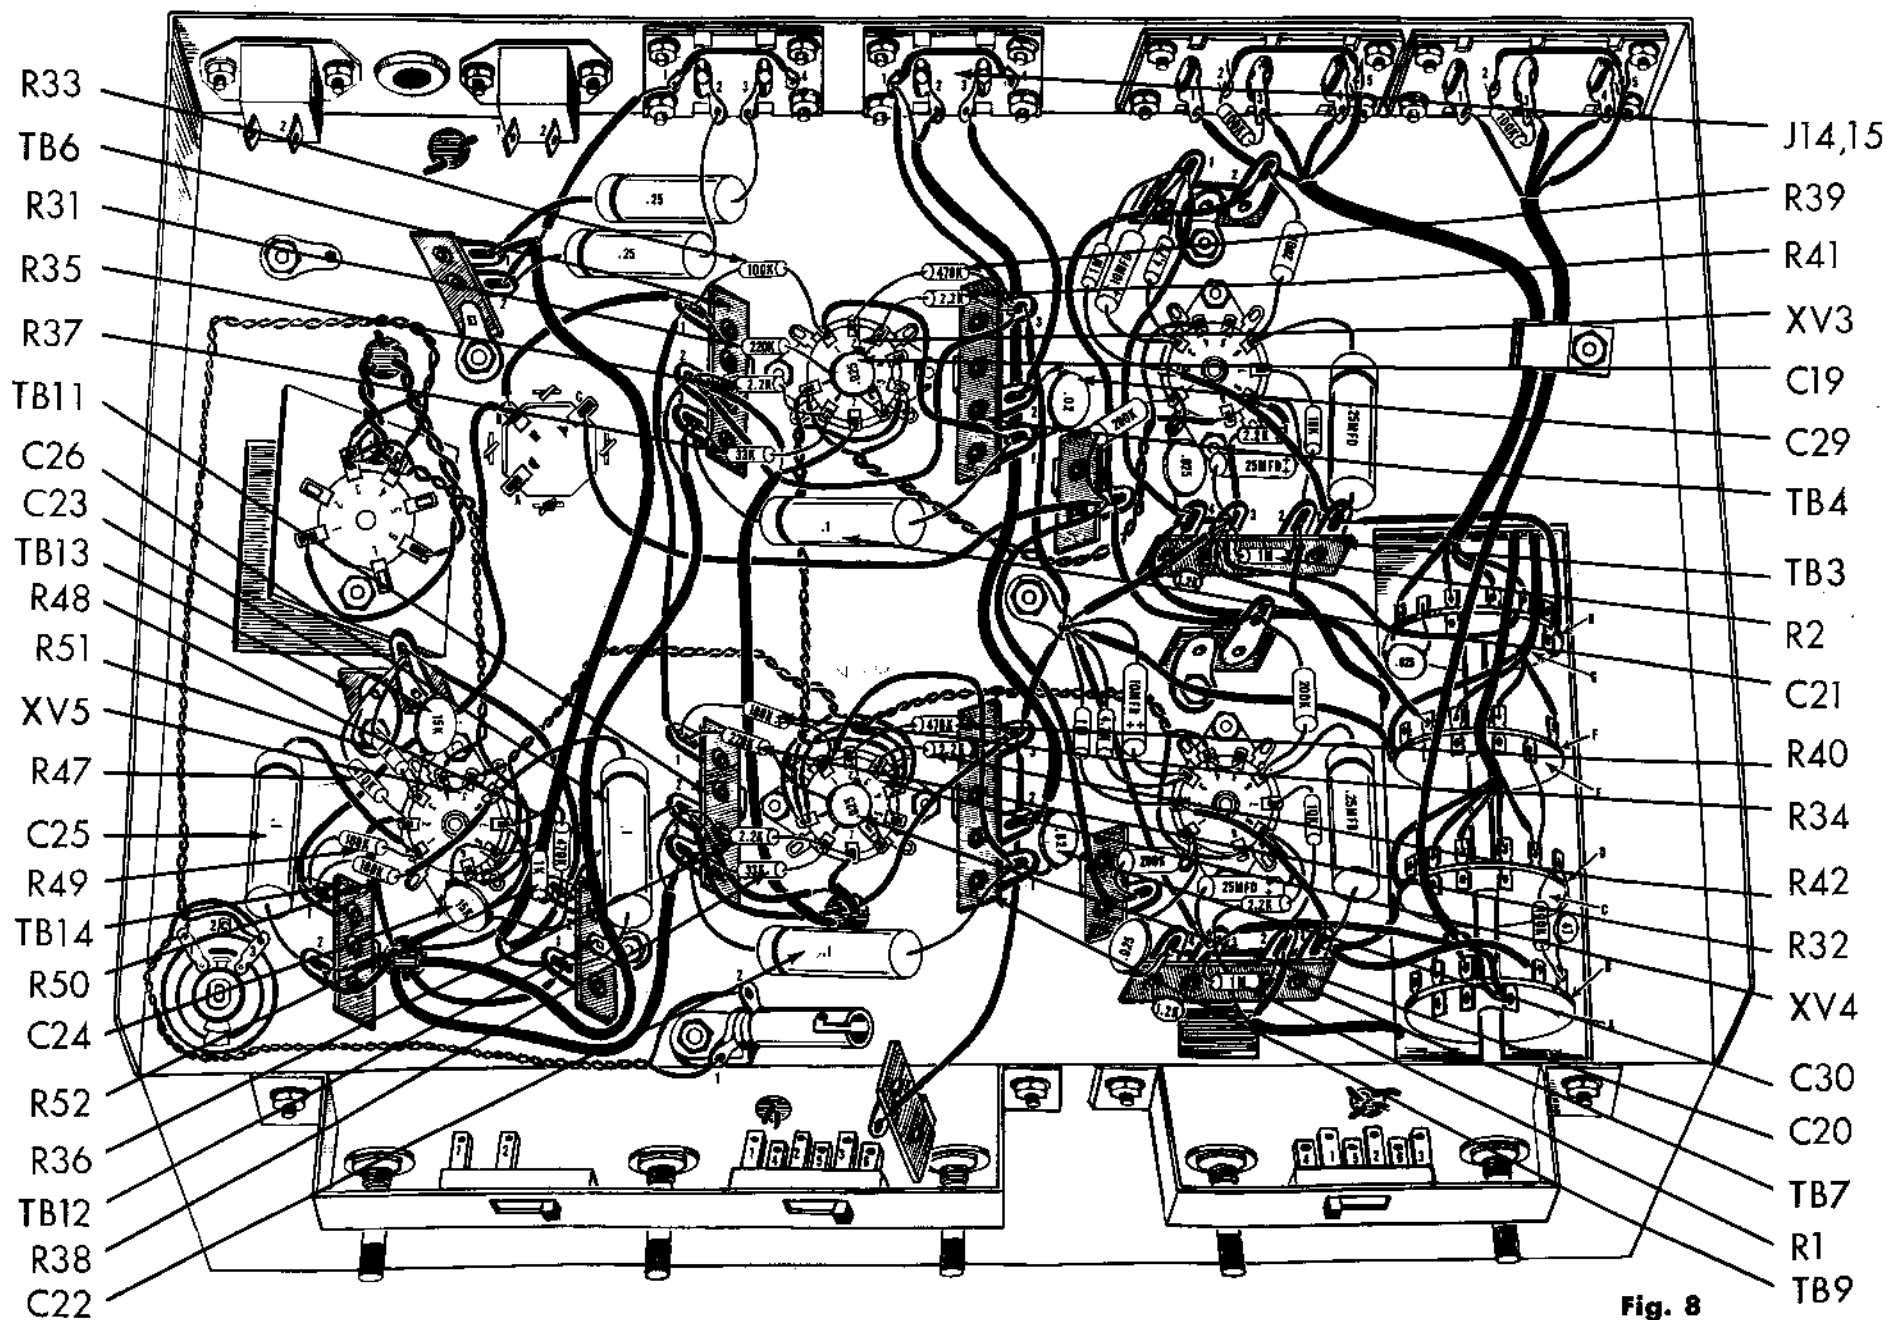

Fig. 8
- ✓ 1. (✓) Fig. 8. Cut both leads on two 1M Ω (brown, black, green, silver) resistors, R1 and R2, to 1/2". Connect R1 from TB7-2 (S3) to TB7-3 (S7) and R2 from TB3-2 (S3) to TB3-3 (S8).
- ✓ 2. (✓) Fig. 8. On one of a 6 1/2" piece of single conductor shielded cable, strip the insulation back 1/2". Twist the shield strands together and cut them off. Strip back for 1/4" the insulation on the inner conductor. Connect this lead to TB9-2 (C).
- ✓ 3. (✓) Fig. 8. Connect a 2 1/2" piece of brown wire from TB4-2 (C) to J14, 15-3 (S1).
- ✓ 4. (✓) Fig. 8. Cut all leads on two .02mfd (20K or 20,000mmf) disc capacitors, C29 and C30, to 1/2". Connect C29 from TB4-1 (C) to TB4-2 (S2) and C30 from TB9-1 (C) to TB9-2 (S2).
- ✓ 5. (✓) Fig. 8. Connect a 3" piece of blue wire from XV4-1 (C) to TB9-1 (C).
- ✓ 6. (✓) Fig. 8. Connect a 3" piece of blue wire from XV3-1 (C) to TB4-1 (C).
- ✓ 7. (✓) Fig. 8. Cut all leads on four 2.2K Ω (red, red, red, silver) resistors, R35, R36, R41 and R42, to 1/2". Connect R35 from XV3-8 (C) to TB6-2 (S4), R36 from TB11-2 (S5) to XV4-8 (C), R41 from XV3-3 (S1) to TB4-3 (C) and R42 from XV4-3 (S1) to TB9-3 (C).
- ✓ 8. (✓) Fig. 8. Cut all leads on two 33K Ω (orange, orange, orange, silver) resistors, R37 and R38, to 1/2". Connect R37 from XV3-8 (S2) to TB6-3 (C) and R38 from TB11-3 (C) to XV4-8 (S2).
- ✓ 9. (✓) Fig. 8. Cut all leads on two 100K Ω (brown, black, yellow, silver) resistors, R33 and R34, to 1/2". Connect R33 from TB6-1 (C) to XV3-1 (S2) and R34 from TB11-1 (C) to XV4-1 (S2).
- ✓ 10. (✓) Fig. 8. Cut all leads on two 220K Ω (red, red, yellow, silver) resistors,
- ✓ R31 and R32, to 3/4". Connect R31 from TB6-1 (S4) to XV3-6 (C) and R32 from TB11-1 (S3) to XV4-6 (C). Dress resistors so that leads do not short against pins 1 or 9 of XV3 and XV4.
- ✓ 11. (✓) Fig. 8. Cut all leads on two .025mfd (25K or 25,000mmf) disc capacitors, C19 and C20, to 1/2". Connect C19 from XV3-6 (S2) to XV3-2 (C) and C20 from XV4-6 (S2) to XV4-2 (C).
- ✓ 12. (✓) Fig. 8. Cut all leads on four 470K Ω (yellow, violet, yellow, silver) resistors, R39, R40, R47 and R48, to 5/8". Connect R39 from XV3-2 (S2) to TB4-3 (S5), R40 from XV4-2 (S2) to TB9-3 (S5), R47 from XV5-2 (S2) to TB13 (C) and R48 from XV5-7 (S2) to TB12-2 (C).
- ✓ 13. (✓) Fig. 8. Cut all leads on two .1mfd (brown, black, yellow, silver, yellow) 400 volts, molded capacitors, C21 and C22, to 3/4". Connect C21 from TB6-3 (S3) to TB4-1 (S3) and C22 from TB11-3 (S3) to TB9-1 (S3).
- ✓ 14. (✓) Fig. 8. On two .1mfd (brown, black, yellow, silver, yellow) 400 volts, molded capacitors, C25 and C26, cut one lead on each capacitor to 1 1/4" and cover with a 1" piece of spaghetti. Cut the other lead on each capacitor to 3/4". Connect the longer lead of C25 to XV5-1 (C) and the shorter lead to TB14-2 (S3). Connect the longer lead of C26 to XV5-6 (C) and the shorter lead to TB12-1 (S3).
15. () Fig. 8. Cut all leads on two 1K Ω (brown, black, red, silver) resistors, R51 and R52, to 1/2". Connect R51 from XV5-3 (C) to TB13 (C), and R52 from XV5-8 (C) to TB12-2 (C).
- ✓ 16. (✓) Fig. 8. Cut all leads on two .015mfd (15K or 15,000mmf) disc capacitors, C23 and C24, to 1/2". Connect C23 from TB13 (S4) to XV5-3 (S2) and C24 from XV5-8 (S2) to TB12-2 (S6).
- ✓ 17. (✓) Fig. 8. Cut both leads on a 100K Ω (brown, black, yellow, silver) resistor, R49, to 1/2". Connect from XV5-1 (S2) to TB14-1 (C).
- ✓ 18. (✓) Fig. 8. Cut both leads on a 100K Ω (brown, black, yellow, silver) resistor, R50, to 3/4". Cover each lead with a 1/2" piece of spaghetti. Connect from XV5-6 (S2) to TB14-1 (S3).